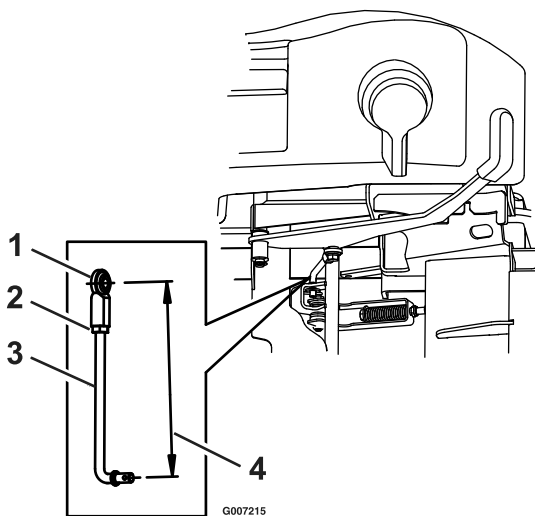

Figure 13
- If park brake does not fully disengage when the lever is disengaged check the brake rod linkage assembly. The assembly should measure 7 3/8 inch (18.7 cm) from the center of the ball joint to the center of the lower end of the linkage rod (see Figure 13).